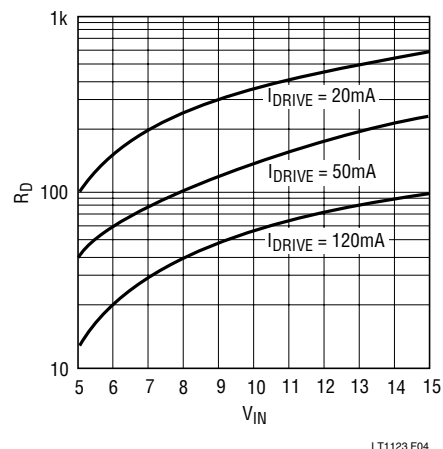

Figure 4. R_D Resistor Value
Figure 4 can be used to select the value of R_D based on the required drive current and the minimum input voltage. Curves are shown for 20mA, 50mA and 120mA drive current corresponding to the specified base drive currents for the MJE1123. The data for the curves was generated using the following formula:
2. The next step is to determine the value of R_D . Based on 50mA of drive current and a minimum input voltage of 5.5V, we can select R_D from the graph of Figure 4. From the graph the value of R_D is equal to 50Ω, so we should use the next lowest 5% value which is 47Ω.